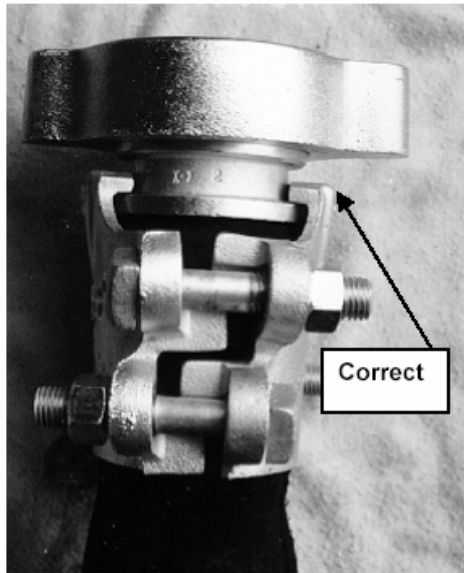
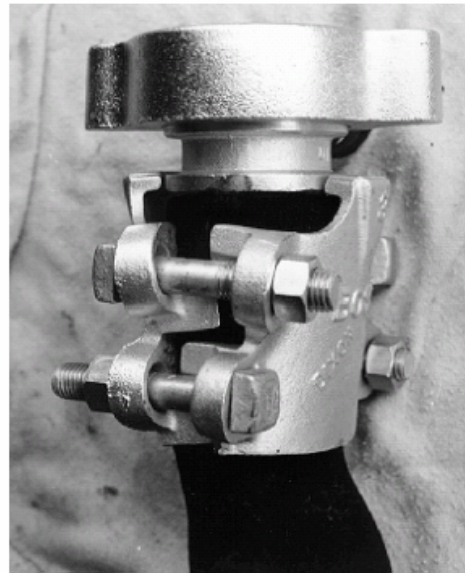

Figure 2. Safely fitted hose couplings.
Figure 3. Unsafe hose couplings. Hose clamps do not lock into the stem groove.
Diamonds North personnel must be able to identify incorrectly fitted hose couplings, i.e., hose clamp lugs **must** lock into the stem groove as shown in Figure 2. The coupling assembly must not contain any mismatched parts as shown in Figure 3.
5. **Hoses and couplings must match and lock completely and correctly** (Fig. 2).